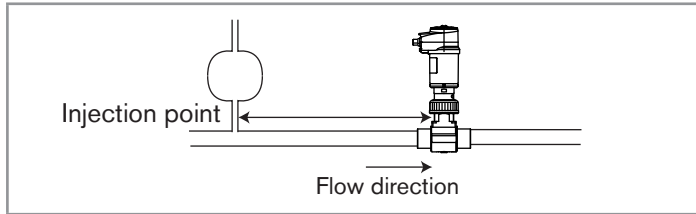

Fig. 3 : Minimum distance between the measuring device and an injection point
- Respect the minimum distance between the measuring device and an injection point (Fig. 3).